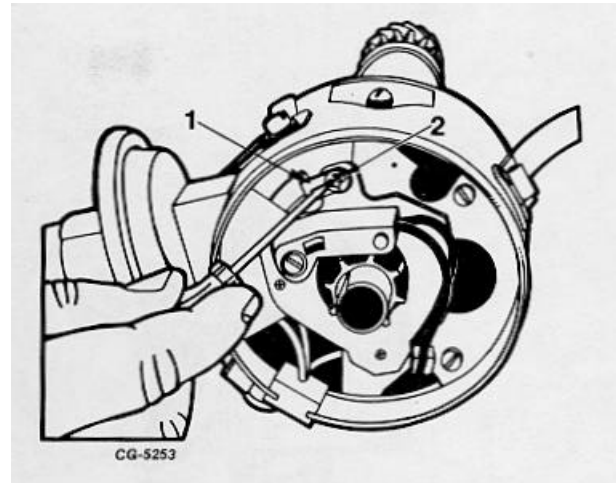

Fig. 12. Removing Diaphragm Rod Retainer
2. Remove vacuum advance diaphragm rod retaining "E" clip (Figure 12) and flat washer (where used).